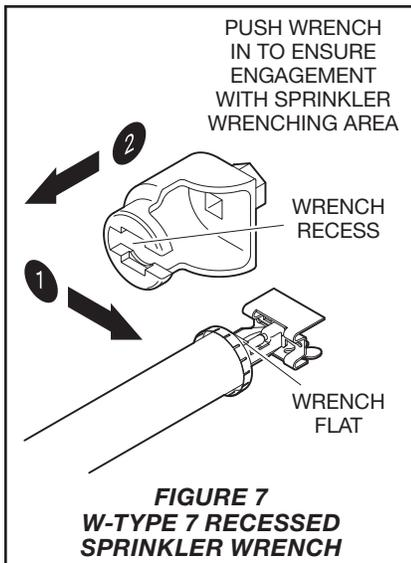

FIGURE 7
- For recessed horizontal sidewall sprinklers, apply the Wrench Recess of the W-Type 7 Sprinkler Wrench to the Wrench Flat (see Figure 7).
Specify: W-Type 7 Recessed Sprinkler Wrench (Figure 7), P/N 56-850-4-001